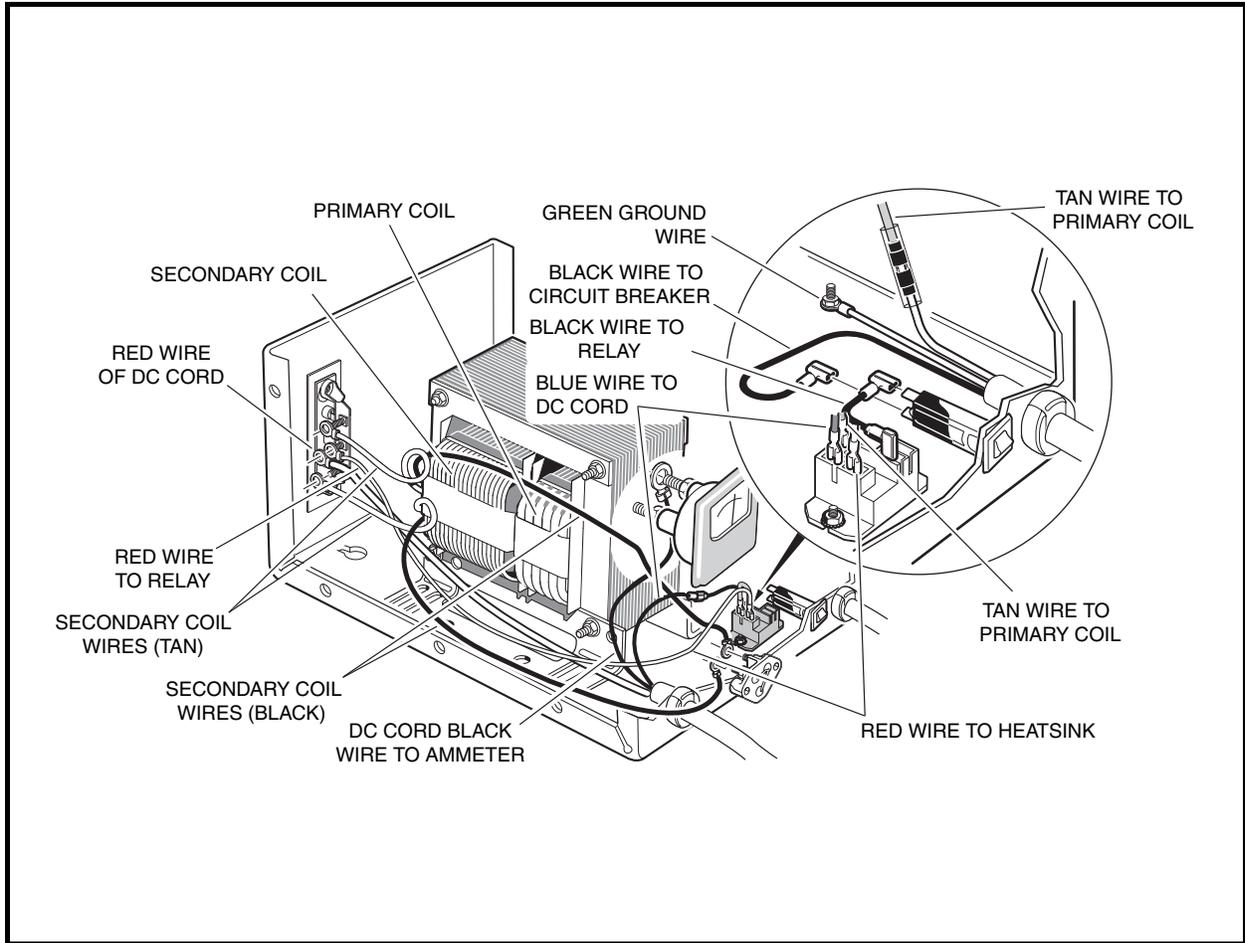

Figure 3-10 PowerDrive Battery Charger
- Knowledge of battery charger wiring and component terminology is required before attempting any repair (Figure 3-9, Page 3-11 and Figure 3-10, Page 3-15).